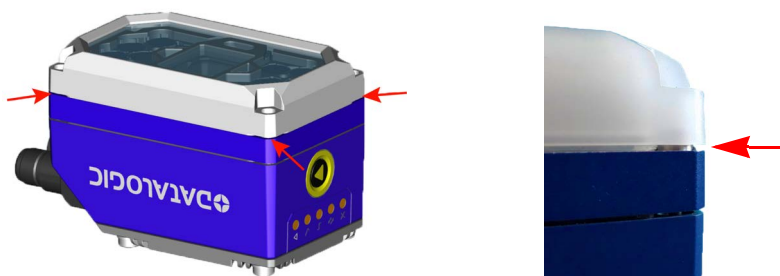

Figure 50 - Removing the cover (14 LEDs model)
2. Remove the cover. The cover will remain attached to the body because of the gasket. To unmount it properly, it is recommended to gently lever the cover from its corners using a flat blade screwdriver between the cover and the body of the reader. See Figure 50 and Figure 51.